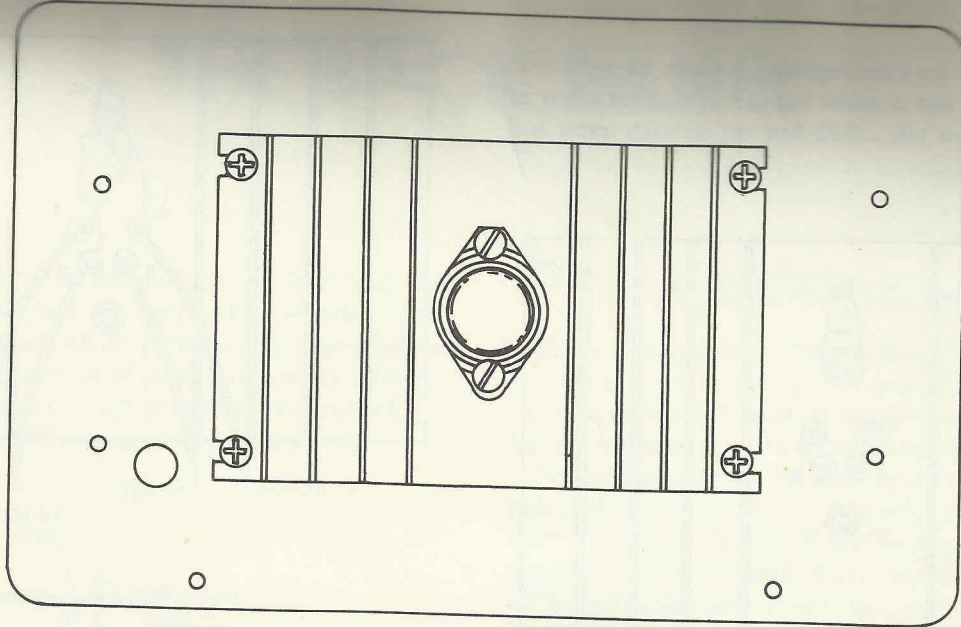

Fig. 9. The heat sink and the regulator mounted on the back panel.
- (6) Wrap one end of the solid red wire around the end of pin 3 of the voltage regulator. Now place the heat sink on its side again and solder the red wire to pin 3 of the regulator (S1) (✓)
- (7) Connect the positive lead of the 10 μ f capacitor to pin 2 of the voltage regulator (NS). Wrap the capacitor lead around the end of the pin to hold it in place. Connect the other lead to solder lug A (S2) (✓)
- (8) Wrap the end of the red stranded wire around the end of pin 2 of the regulator. Place the heat sink on its side and solder the red stranded wire and the capacitor to terminal 2 of the regulator (S2) (✓)
- (9) Carefully inspect the regulator to be sure that no solder has run down the pins leaving a large glob of solder. If there is a large glob of solder, heat the pin with your soldering iron and let the solder roll off the pin onto your iron (✓)
- (10) Insert the 7/8" rubber grommet in the large hole in the back panel (PA62). Place the back panel so that the 3/8" hole is at the lower left (✓)
- (11) Now feed the leads soldered to the regulator through the grommet and mount the heat sink on the panel as shown in Fig. 9, using four 3/8" long 6-32 Phillips head screws. Place a lockwasher and nut on each screw. Tighten the four mounting screws and nuts to hold the heat sink in firm contact with the back panel (✓)